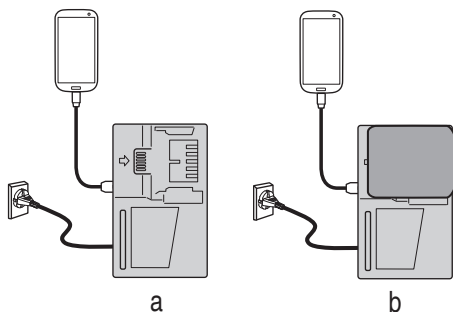

Fig. 17
- Charging a USB device from a electrical outlet (Fig. 17-a).
- Charging a USB device and battery from a electrical outlet.(Fig. 17-b)